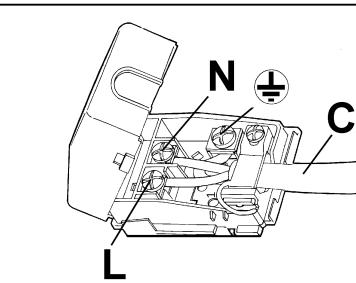

FIG. 11
- apply to the input cable "C", if unprovided (see fig. 11) a normalized plug adequate to the load indicated in the identification label. Connect the cables according to the scheme of fig.11, making sure to respect the undermentioned correspondences: